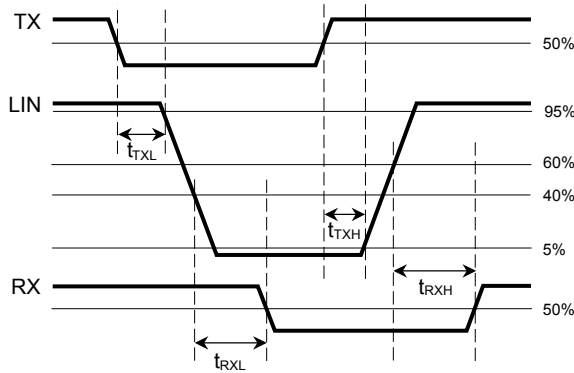

Figure 1. Propagation timing definition
If the supply voltage drops below the UVLO threshold, all outputs are disabled. When the supply voltage rises above the UVLO threshold, the A8423 is reset into the Sleep mode. From that state, it follows the logic shown in figure 1. That is, if Active is true (T), the A8423 immediately goes to Standby mode. If EN is high, it goes directly to the normal mode.